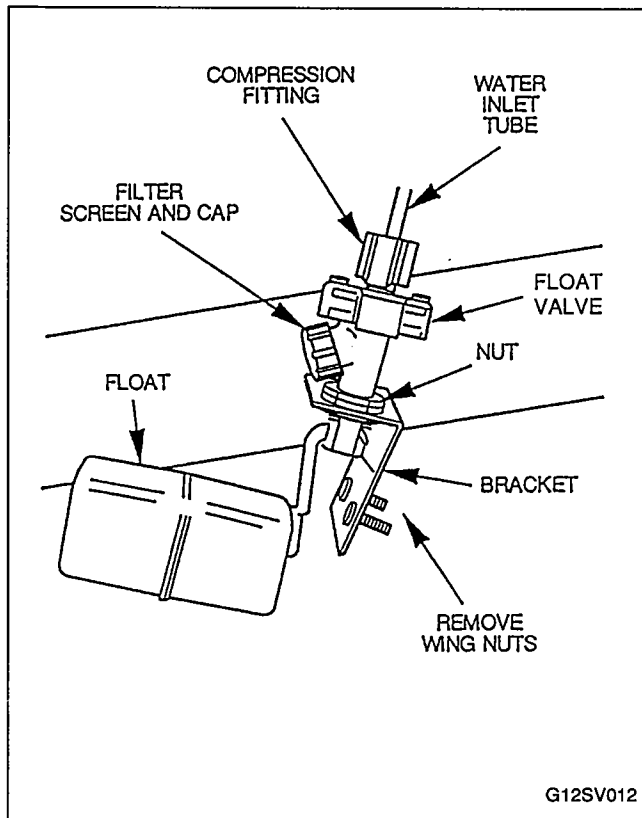

FIGURE 12. FLOAT VALVE REMOVAL
## REMOVE FLOAT VALVE (Figure 12)
1. Turn on water to ice machine at water service valve and verify float valve is open, Figure 12.
6. Shut off water at float valve. See Figure 12.